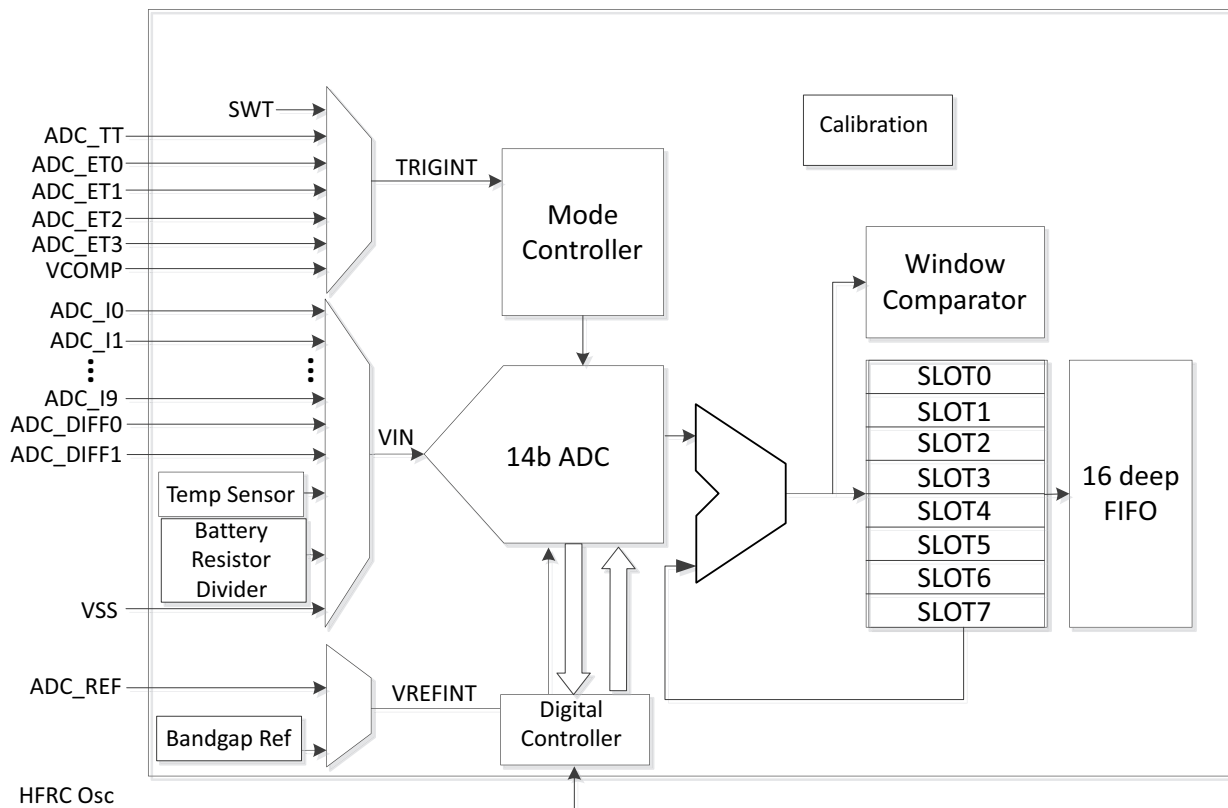

Figure 64. Block Diagram for ADC and Temperature Sensor
The Analog to Digital Converter (ADC) and Temperature Sensor Module includes a 14 bit multi-channel Successive Approximation Register (SAR) ADC as shown in Figure 64.
As shown in Figure 64, the ADC block contains a 15 channel analog multiplexer on the input port to the analog to digital converter. Twelve (12) of the GPIO pins on the Apollo2 MCU can be selected as analog inputs to the ADC through a combination of settings in the PAD configuration registers in the GPIO block and settings in the configuration registers described below.